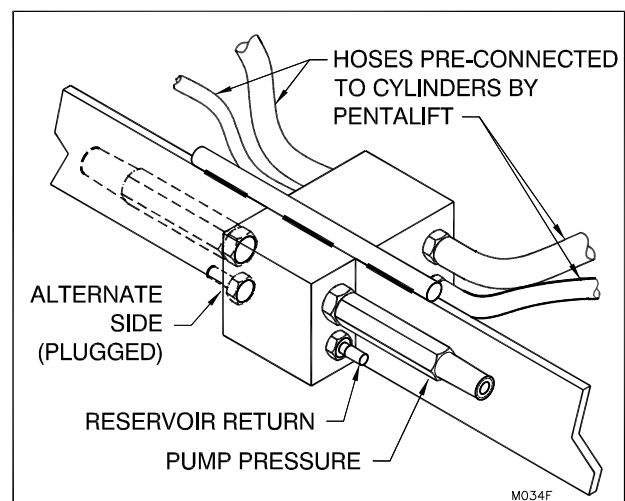

Figure 4: Connect the Hoses to Junction Block on Side Nearest to the Power Unit (utilized when three or more lift cylinders are on lift)
6. For units with more than two lift cylinders, connect the hoses using the junction block installed in the frame of the lift. The junction block is designed to facilitate connection of the hoses to the block from either side. If warranted, to accommodate a more direct path to the power unit, hydraulic plugs provided in the junction block can be switched from one side of the junction block with the fittings provided on the other side of the junction block. (See "Figure 4: Connect the Hoses to Junction Block on Side Nearest to the Power Unit" on page 5). **NOTE:** The pressure line is the larger diameter size hose of the two supplied hoses and the bypass line is the smaller diameter size hose of the two supplied hoses. Matching sizes hose connection fittings will be provided to avoid incorrect switching of the hoses.